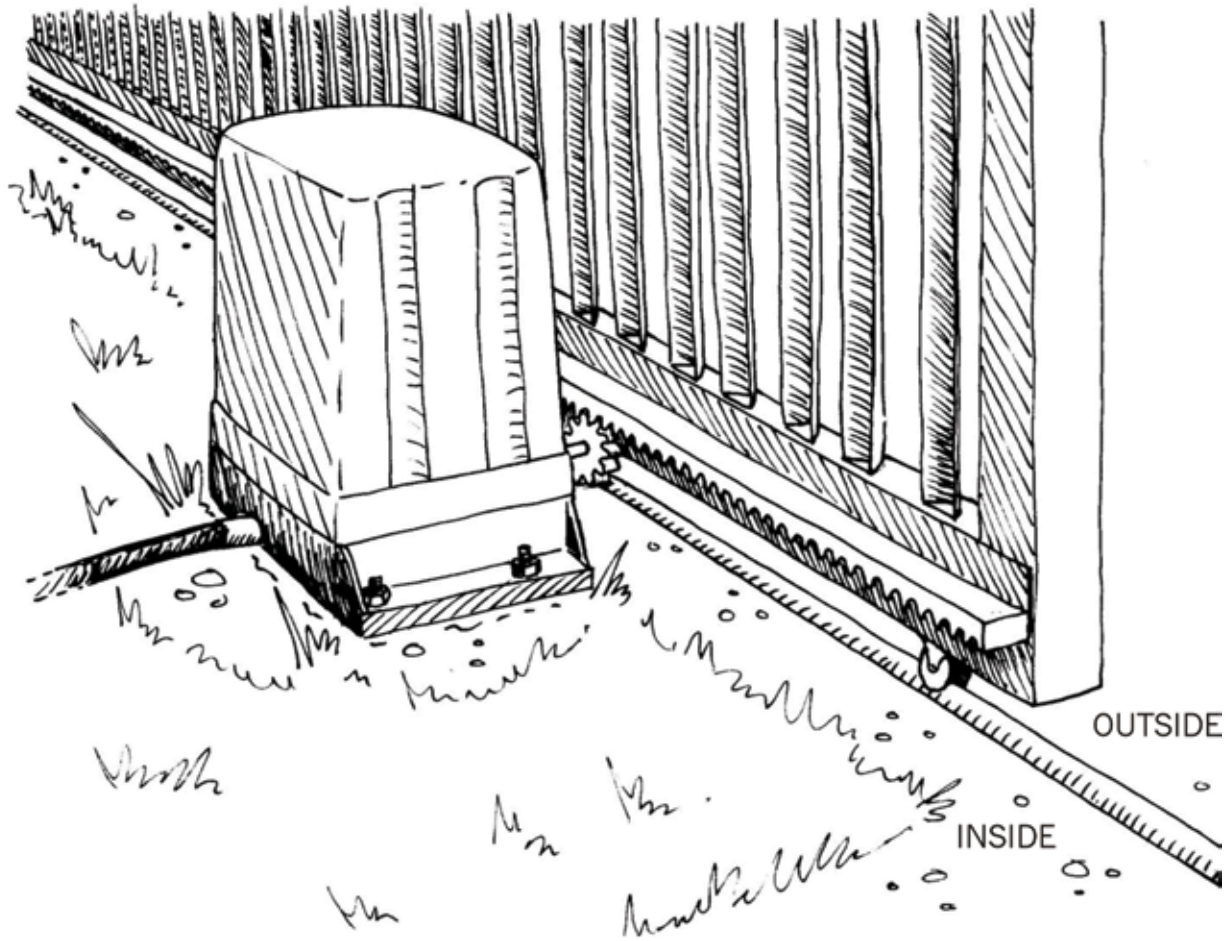

Figure 20: A rack-and-pinion gear in a security gate
In Figure 20, you can see a shell structure that is bolted to the ground on the inside of the gate.
1. What do you think is inside the shell structure in Figure 20, and why is it there?
2. In which direction will the gate move when the gear wheel is turned clockwise (as seen from *inside* the gate), in Figure 20?